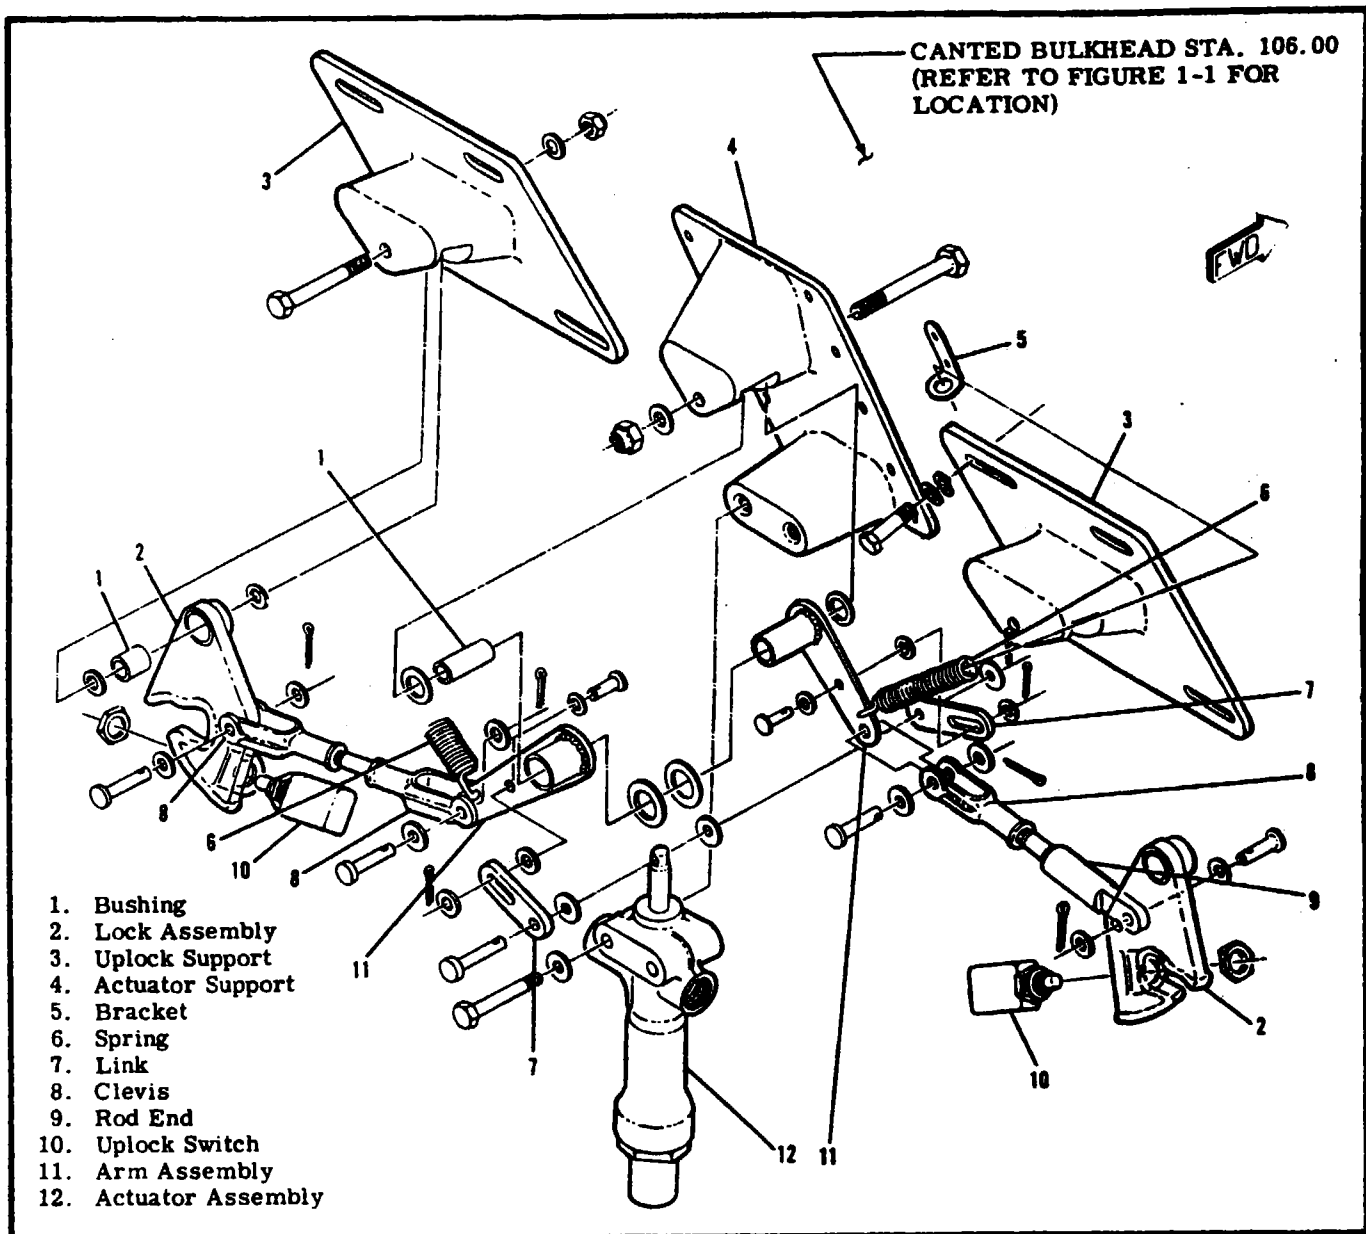

Figure 5-4. Main Landing Gear Uplock Installation
5-20. MAIN GEAR UPLOCK MECHANISM. (Refer to figure 5-4.)
5-22. REMOVAL AND INSTALLATION OF MAIN GEAR UPLOCK MECHANISM. (Refer to figure 5-4.)
- c. Components may be removed or installed using figure 5-4 as a guide.